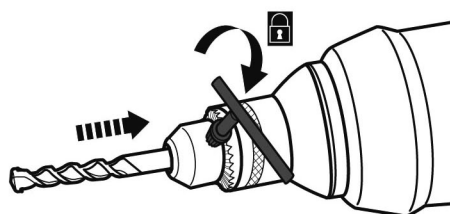

Fig. 3
- > Insert the key into one of the holes on the keyed drill chuck and turn the key clockwise. Move on to the next hole and turn the key. Repeat until the drill bit is securely fastened and centred in the keyed drill chuck. (Fig. 3).